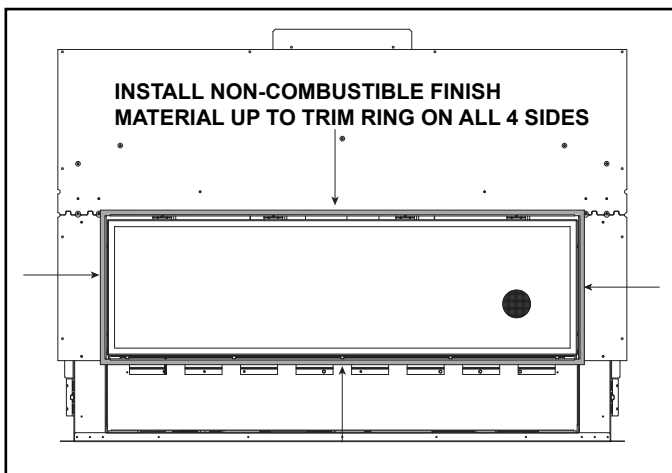

Figure 2. Install Non-Combustible Material
The trim ring acts as a finishing template in this application. Non-combustible finishing material, one to four inches thick, will be installed up to the outside edges of the trim ring as shown in Figure 2. Note that the CFT decorative front is the only decorative front approved for MEZZO-AUB models that allows finishing material thickness to be greater than one inch.
2. Install non-combustible finishing material up to the outer edges of the trim ring as shown in Figure 2.